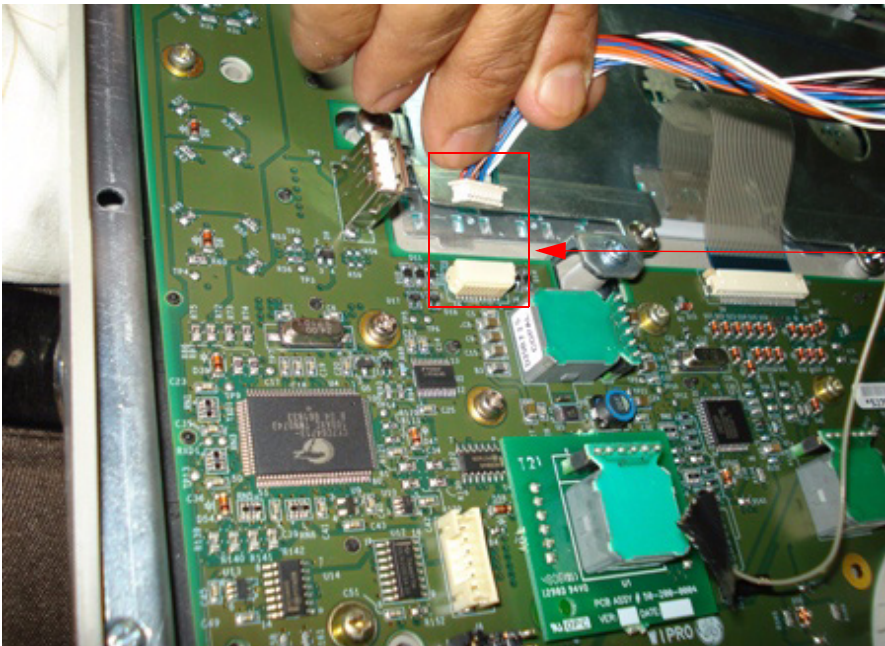

Figure 8-13 Keyboard cable location
5) Remove cable from keyboard Assembly of the system. Refer Figure 8-13 on page 8-14